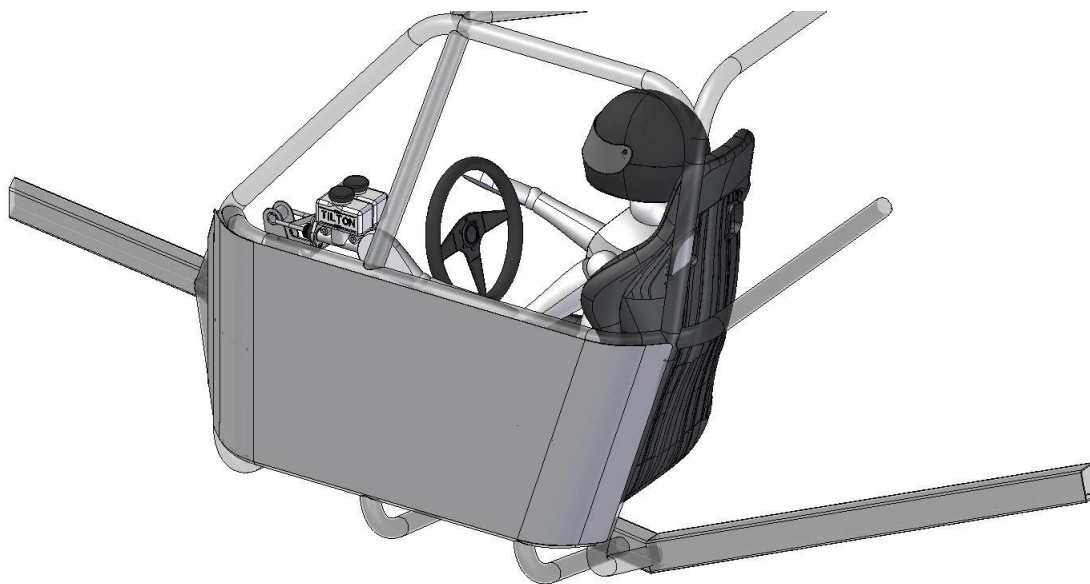

Figure 7 DRIVER DOOR BAR COVERING
- Driver's side door bars must be covered with a minimum of .125-inch steel plate bolted on, using a minimum of 3/8" bolts on 6" centers. See diagram on FIG 7.
- Under driver Floor Plate: .125" thick steel or .250" 6061-T6 aluminum plate bolted every six (6) inches with 3/8 bolts. Plate must cover entire floor opening from front fire wall to back firewall side tube to side tube of driver's compartment. Plate must extend to centerline of all floor tubes. Mounting tabs must be made of .090 thick steel.
- Mud flaps are required and must extend from 6 inches above center line of rear axle to 3 inches from ground at ride height. See diagram on FIG 7